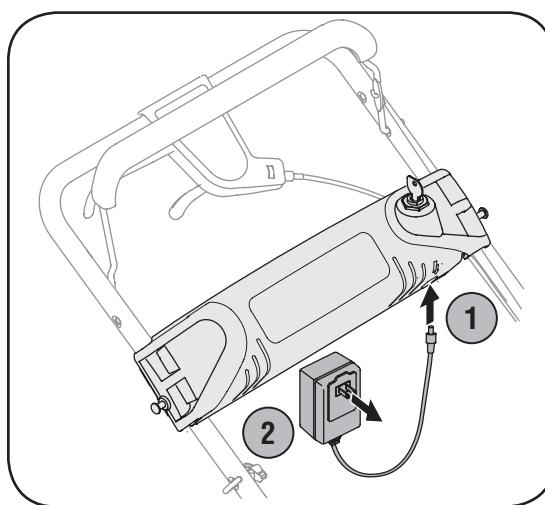

Figure 22
1. Plug the battery charger into the port on the underside of the battery housing. See Figure 22.
2. Insert the battery charger plug into a standard 120 volt household outlet. See Figure 22. Charge battery for 8 to 10 hours before initial use. **Do not charge longer than 12 hours.** The battery should only need to be charged upon initial setup and after any other extended periods of non-use.